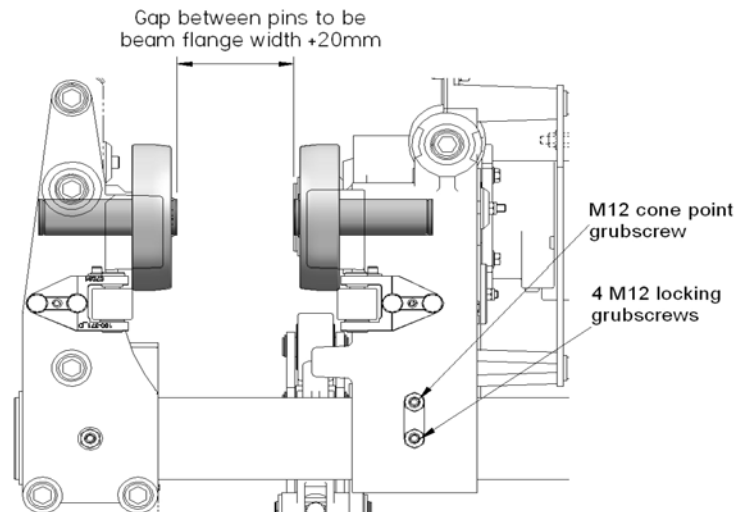

Figure 15 – Installing the Low Headroom Trolley
- Open the trolley frame until the gap between the ends of the wheel axles is at least 20mm wider than the width of the runway flange (see Figure 15). Do not remove the circlips on the ends of the legs.